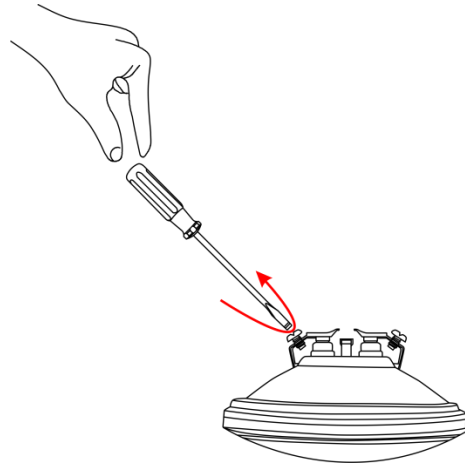

Fig. 04
- 03) Insert a flat-headed screwdriver into the screws and turn left to loosen the screws a little bit (Fig.04).